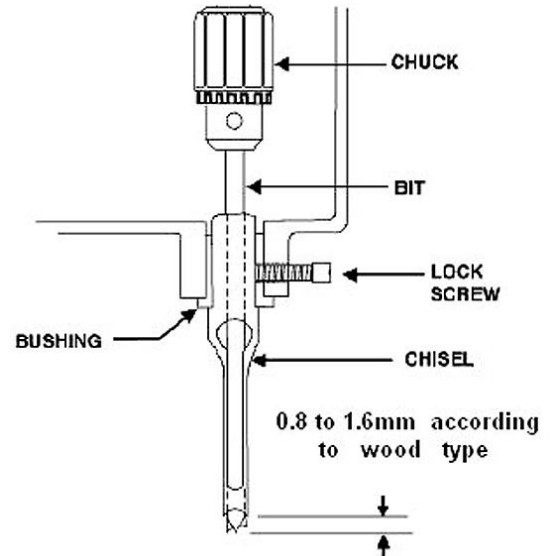

Fig 13
1. Loosen lock screw, shown in Figure 13.